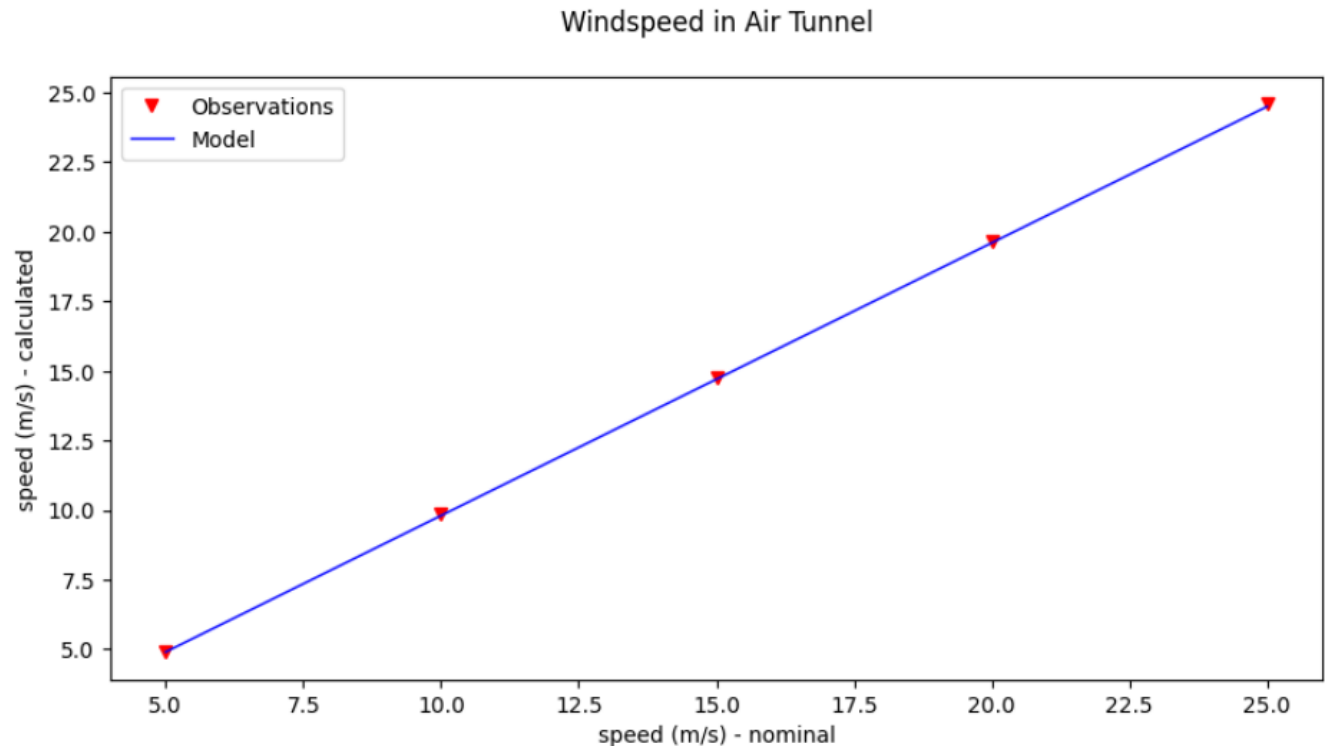

Figure 2: Reference airspeed vs. Pitot airspeed. Markers are observations, line is calibration curve.
2. Calibration Curve: Use the data to create a plot (e.g., in Excel or Python) with the reference airspeed on the x-axis and the calculated airspeed on the y-axis. Ideally, the points should lie on the 1:1 line, but any deviations will indicate a correction factor for the Pitot tube calibration. Figure 2 is a plot of nominal windspeed and Pitot tube airspeed - the solid line is the calibration curve.